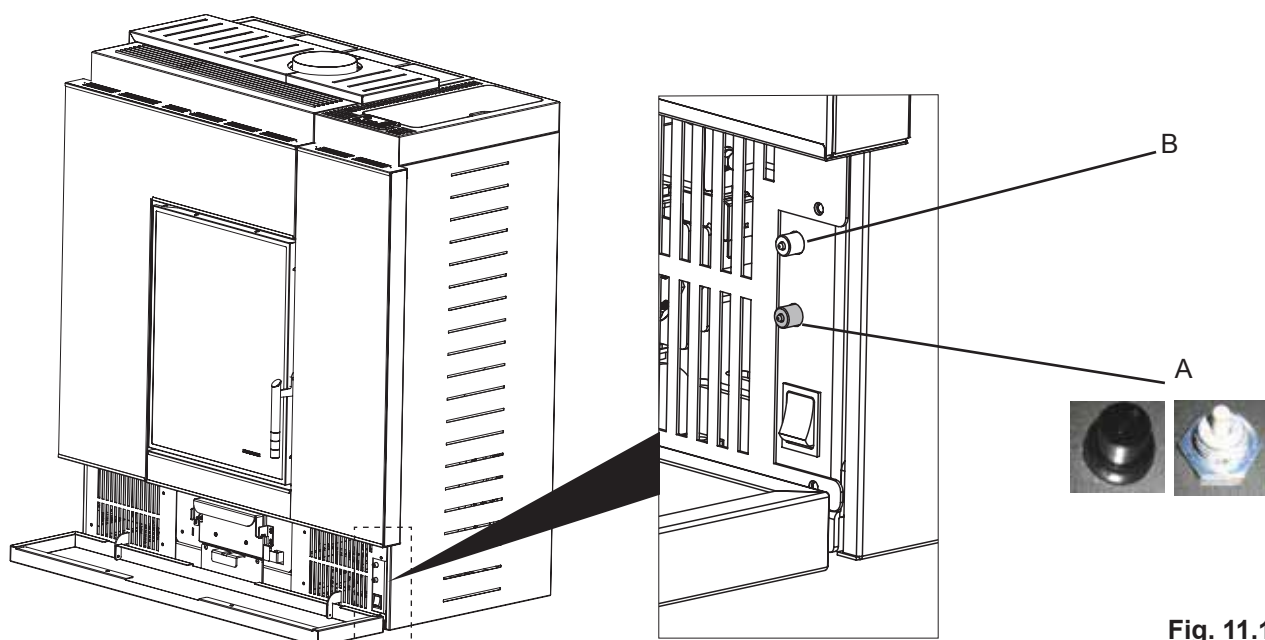

Fig. 11.1
If the error code is “E108”, it may be necessary to re-arm the manual reset thermostat (Fig. 11.1-A) by unscrewing its cap and pressing the reset button.
- While cleaning is in progress, hold the microswitch (Fig. 11.1 - B) down for five seconds, making sure to keep the brazier door closed.